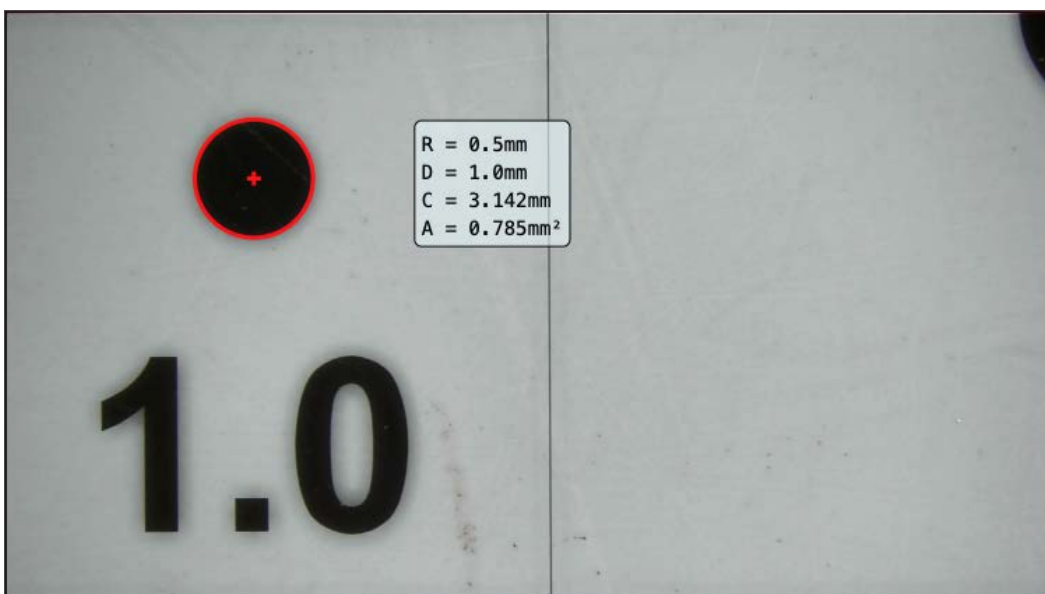

Figure 5-8 Example of circular measurement with 2 points forming a circle
- (6) 2 points circle: This tool  can be used when the object to be observed is a circular object. Tool, select the first point on the edge of the circular object you want to observe, hold down the left button of the mouse, and move to the second point on the edge of the circular object to automatically draw a circle. In Figure 5-8, the radius of the circle is  $R=0.5\text{mm}$ , the diameter is  $D=1.00\text{mm}$ , the circumference is  $P=3.142\text{mm}$ , and the area is  $A=0.785\text{mm}^2$ .